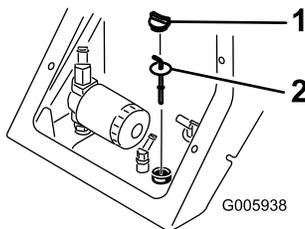

Figure 40
4. Clean the area around the filler neck of the hydraulic tank (Figure 40).
5. Remove the filler-neck cap and check the fluid level on the dipstick (Figure 40).